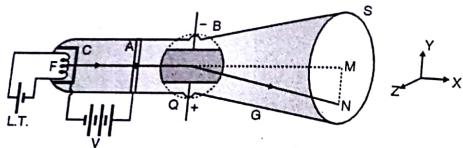

Fig. 7.13.9 : Arrangement for Thomson's experiment
- The modernized version of Thomson's apparatus is shown in Fig. 7.13.9. It consists of a highly evacuated discharge tube G in which F is a filament of tungsten coated with a layer of BaO or SrO.